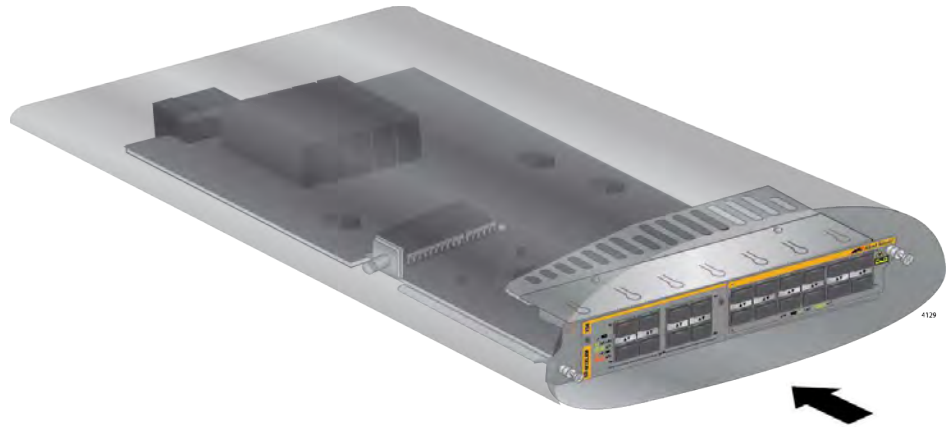

Figure 91. Returning the Line Card to its Anti-static Bag
13. If you are not installing the line card in the chassis now, return it to its anti-static bag and shipping container to protect it from damage. Refer to Figure 91 on page 161.